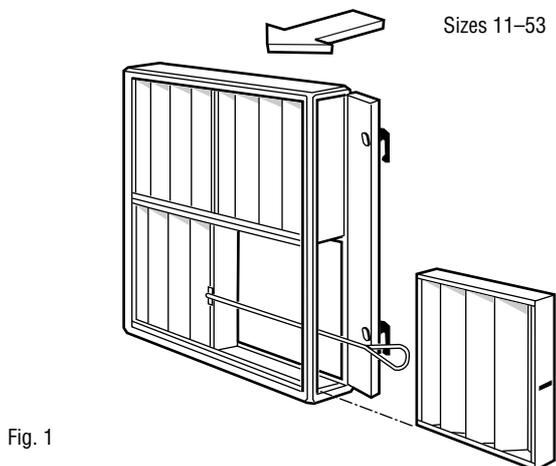

Fig. 1
- C. Withdraw the old filter cassettes along the guide rails in the unit. For sizes 32, 33 and 41 - 53, use the hook supplied for withdrawing the inner cassettes as shown in Fig. 1.
- C. Withdraw the filter cassettes from the casing. For EUPA sizes 32, 33 and 41 – 53, use the hook supplied to withdraw the inner cassettes (see Fig. 1).